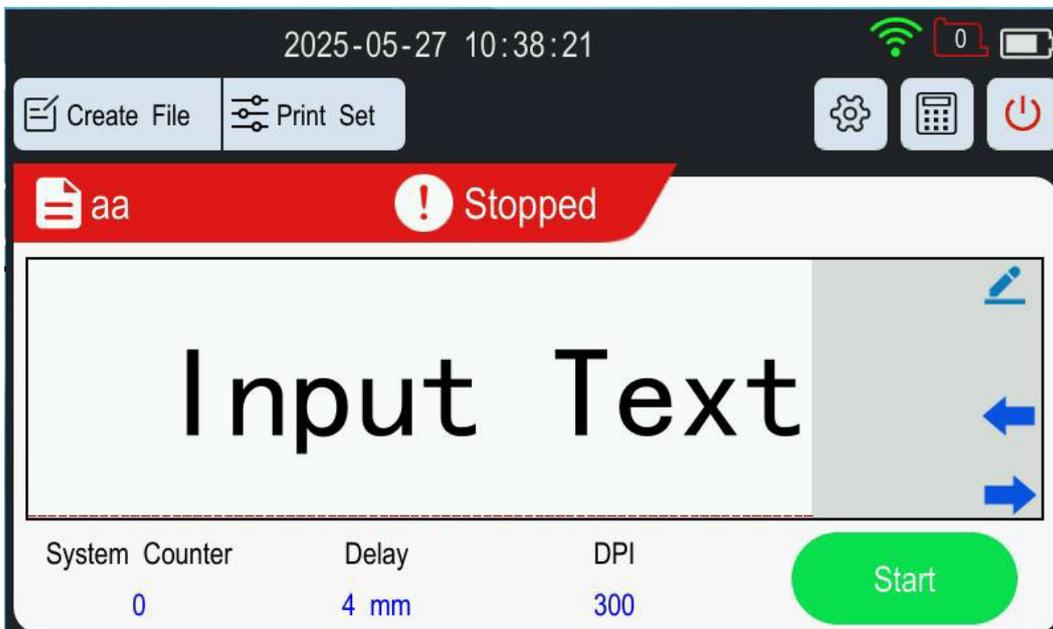

Figure 5-15: Main Interface
1. On the main interface, click the Edit Current File button  to enter the file editing interface, as shown in Figure 5-15.